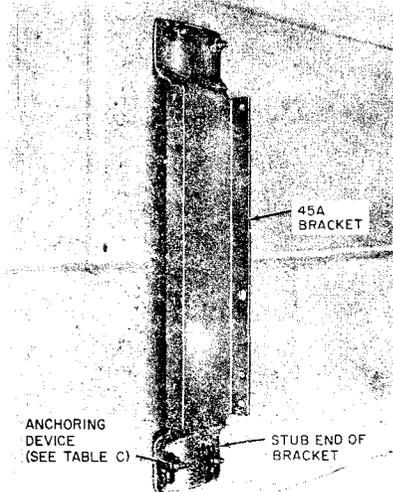

Fig. 28—45A Mounting Bracket Mounted Vertically on Wall
- (1) Attach the 45A bracket on the wall as illustrated in Fig. 28 and 29.